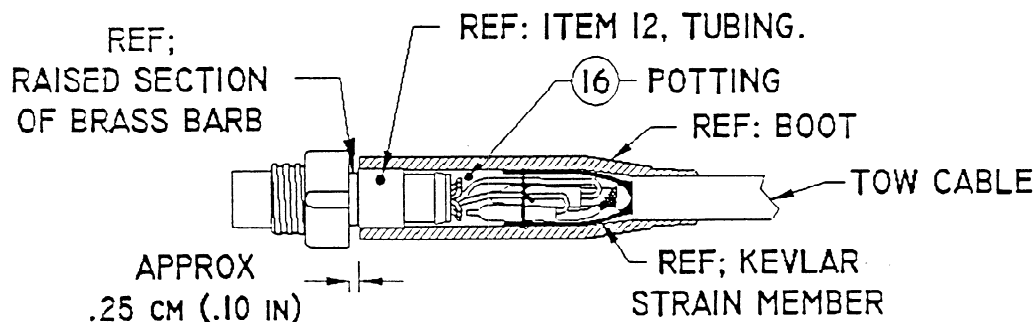

FIGURE 6
The termination is now prepared for potting. Use Klein Potting Kit 14103086 (item 16); see Figure 6 for item identification.
26. Slide the boot (item 5) up the cable to a point where the open end of the boot is even with the bottom end of the tubing (item 12) on the hose barb of the connector.
33. Slowly move the filled boot into place, with the top of the boot even with the top of the tubing (item 12), keeping it full of potting material and letting any air trapped in the boot and base of the connector escape. Insert a small screwdriver between the top of the boot and the tubing to vent the air out of the boot. Inject more potting in the assembly until it flows out of the top.